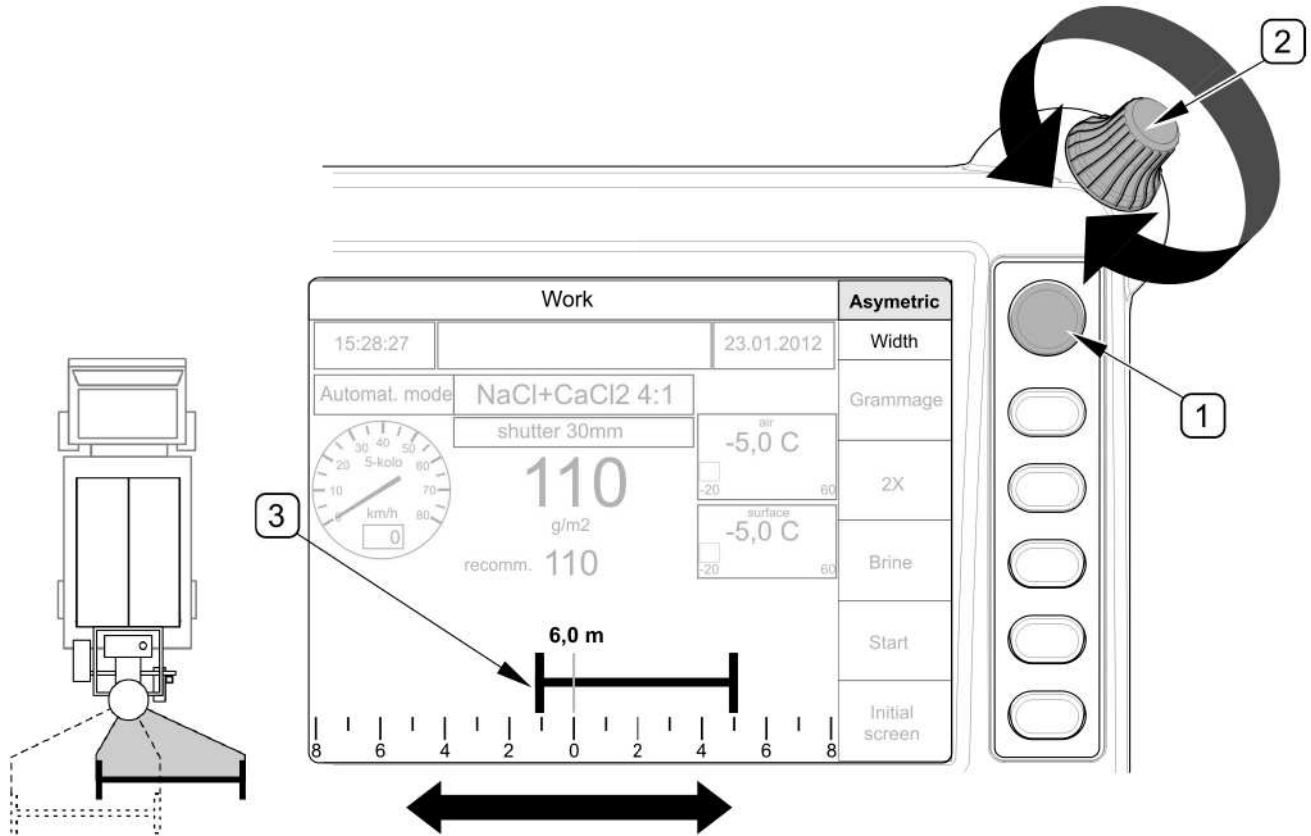

FIG. 4.30 Changing asymmetry of spreading
- highlight "Width" function by means of push-button (1)
- turn knob (2) to set a required width (3) from 2 m ÷ 12 m
To change asymmetry of spreading, highlight "Asymmetry" field on working page "Operation" by means of push-button (1). Turn knob (2) to move current spreading width to the right or to the left (FIG. 4.30).